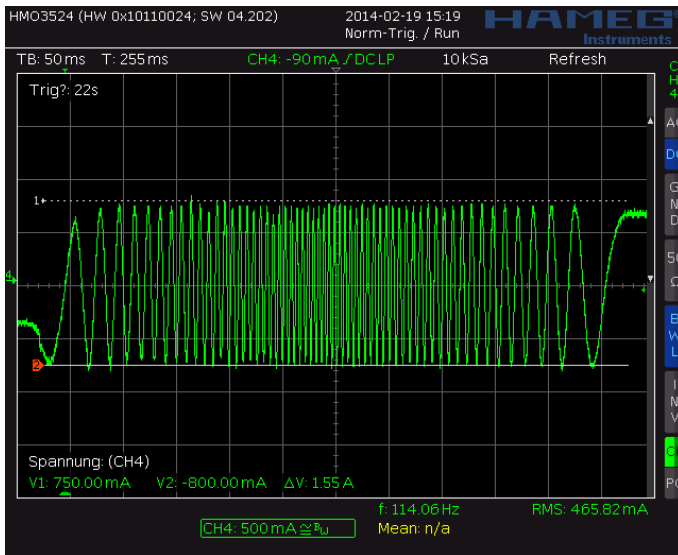
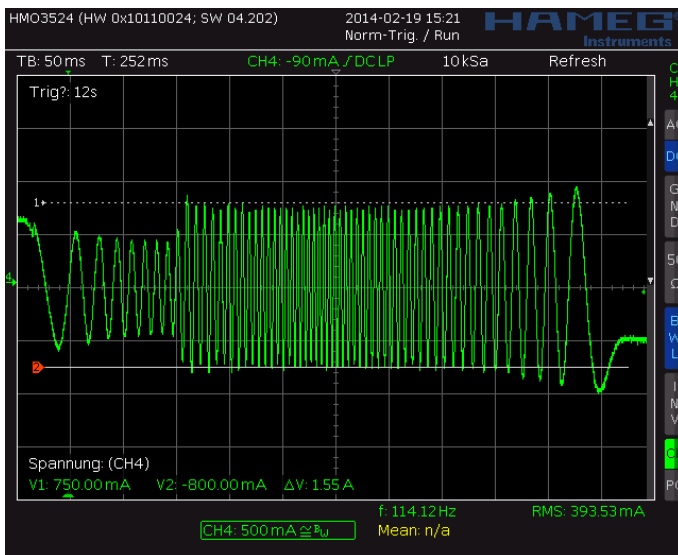
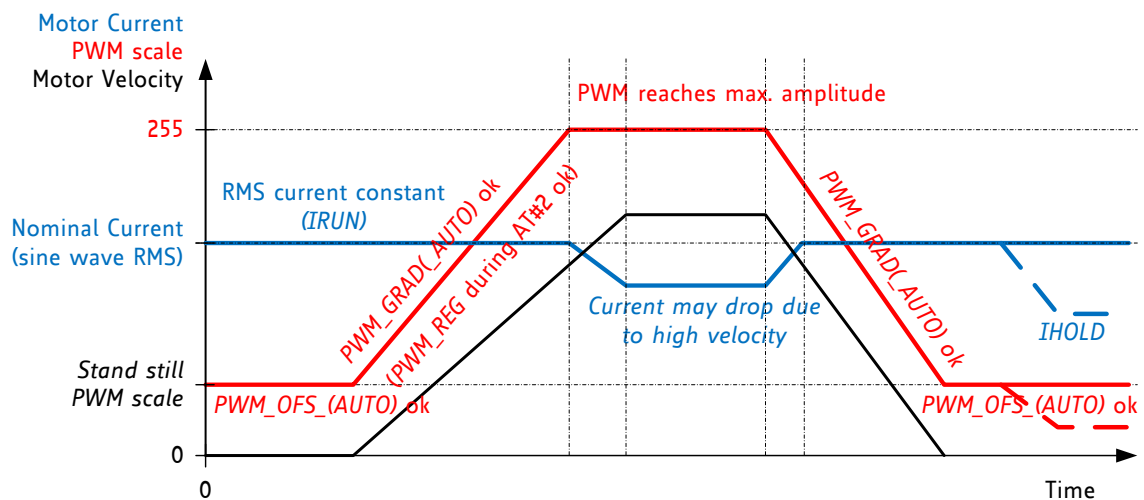

Figure 6.3 Scope shot: good setting for PWM_REG
Figure 6.4 Scope shot: too small setting for PWM_REG during AT#2
Figure 6.5 Successfully determined PWM_GRAD(AUTO) and PWM_OF(S)_AUTO
In stealthChop voltage PWM mode, the autoscaling function ($pwm_autoscale = 1$, $pwm_autograd = 1$) regulates the motor current to the desired current setting. Automatic scaling is used as part of the automatic tuning process (AT), and for subsequent tracking of changes within the motor parameters. The driver measures the motor current during the chopper on time and uses a proportional regulator to regulate PWM_SCALE_AUTO in order match the motor current to the target current. PWM_REG is the proportionality coefficient for this regulator. Basically, the proportionality coefficient should be as small as possible in order to get a stable and soft regulation behavior, but it must be large enough to allow the driver to quickly react to changes caused by variation of the motor target current (e.g. change of $VREF$). During initial tuning step AT#2, PWM_REG also compensates for the change of motor velocity. Therefore, a high acceleration during AT#2 will require a higher setting of PWM_REG . With careful selection of homing velocity and acceleration, a minimum setting of the regulation gradient often is sufficient ($PWM_REG=1$). PWM_REG setting should be optimized for the fastest required acceleration and deceleration ramp (compare Figure 6.3 and Figure 6.4). The quality of the setting PWM_REG in phase AT#2 and the finished automatic tuning procedure (or non-automatic settings for PWM_OFS and PWM_GRAD) can be examined when monitoring motor current during an acceleration phase Figure 6.5.